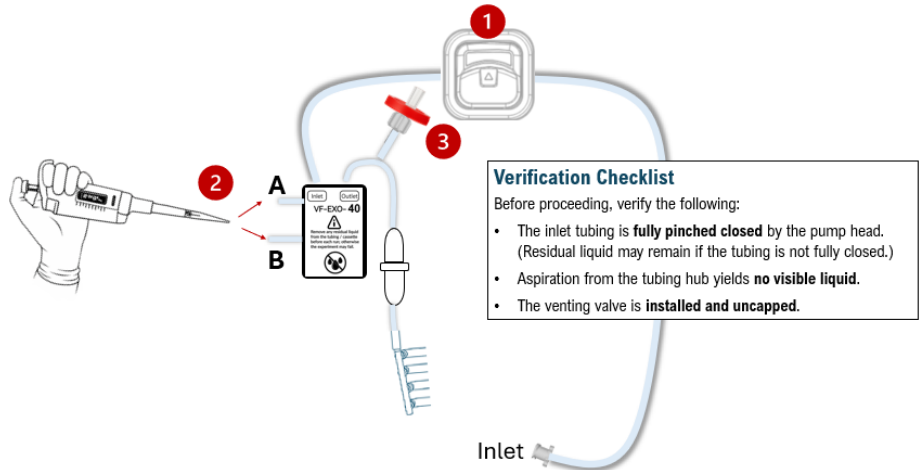

Figure 6 – Emptying tubing hub
Reminder: When reusing a process tubing, confirm that the **tubing hub emptying** steps in Figure 6 are complete.
- Using a pipette with a **1 mL tip**, **fully insert the tip into tubing ends A and B to form a seal**, then aspirate any remaining liquid from tubing ends A and B **until no liquid can be withdrawn**, as shown in Figure 6.
- Before automated cleaning, confirm that the **tubing hub emptying** steps in Figure 6 are complete.
- Before beginning Processing, confirm that the **tubing hub emptying** steps in Figure 6 are complete.
Failure to empty the Tubing Hub before each run, as described in Figure 6, “ Emptying the Tubing Hub. ”	The pre-test may fail, and sample loading may be incomplete or result in excessive elution volume.